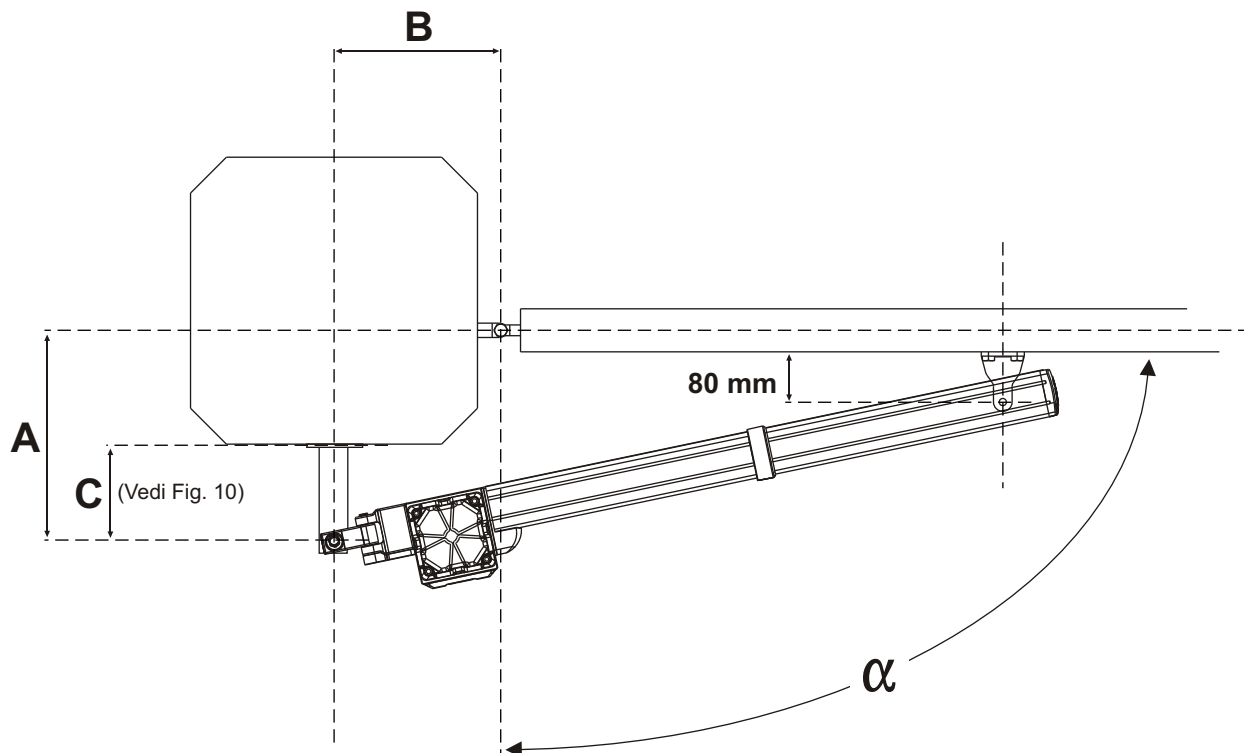

Fig. 8
**2.2.** Weld the back bracket to the plate (Fig 7) following the dimensions shown in Fig 8 and 9. If it is necessary, cut the bracket without going over the minimum limit of 60 mm (Fig 10).